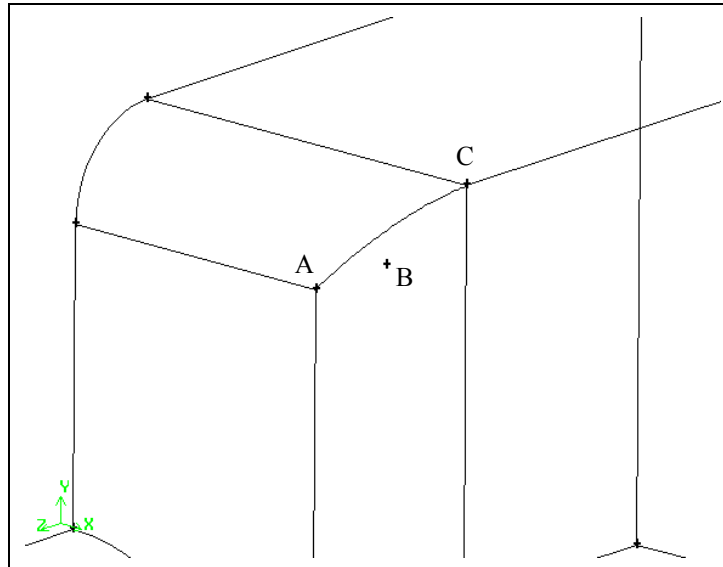

Figure 4-14: Vertices to be selected to create edges
The vertex will be visible in the graphics window as a white cross near where the two blended edges meet. See vertex B in Figure 4-14.
- a) *Shift*-left-click the vertex marked A in Figure 4-14.
- b) *Shift*-left-click the vertices marked B and C in Figure 4-14, in order.